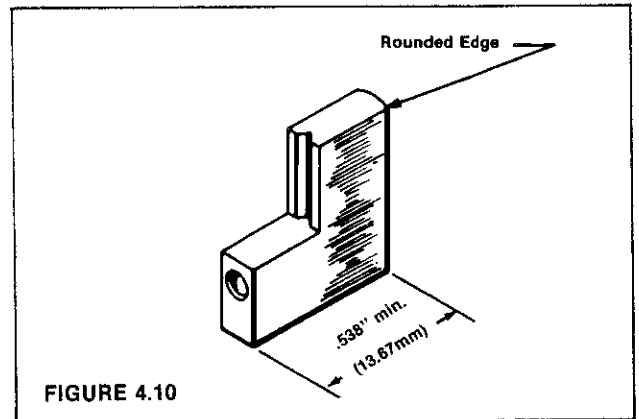

FIGURE 4.10
10. Transfer Pump Blades - Inspect with the utmost care. Check for chipping on any of the edges, including spring bore edges, pitting, imbedded foreign particles or scoring on the rounded edges. Determine blade wear by measuring the length (0.538" min. [13.67mm]). Inspect flat surfaces visually for deep scores (Figure 4.10). If any discrepancies are noted, replace both blade sets and springs.